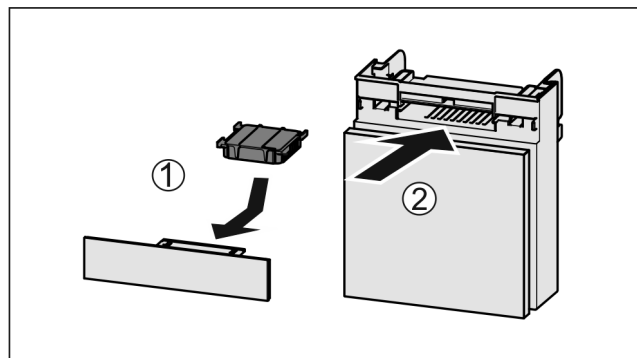

Fig. 117
- Insert the carbon filter as shown in the diagram Fig. 117 (1).
- Push the compartment in Fig. 117 (2).